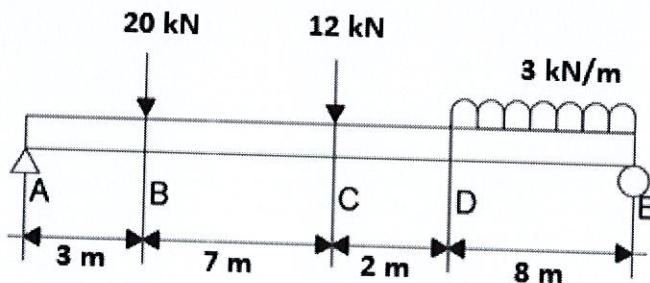

Figure 2(b) / Rajah 2(b)
- (b) A simply supported beam is loaded as shown in Figure 2(b) below. Calculate: